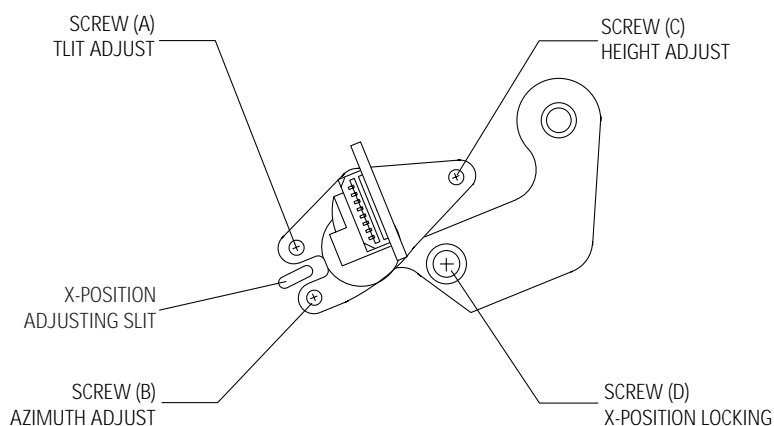

Fig. 3-10 Location of ACE Head Adjustment Screw
- 3) Turn screw (C) clockwise or counterclockwise until the gap of lower tape edge and the lower edge of the control head is about 0.25mm. (Refer to Fig. 3-10 and 3-11)
- 3) Adjust screw (B) to achieve maximum audio level. (See Fig. 3-10)